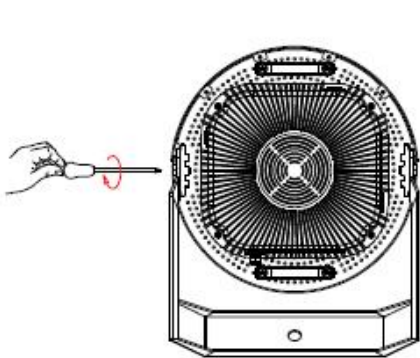
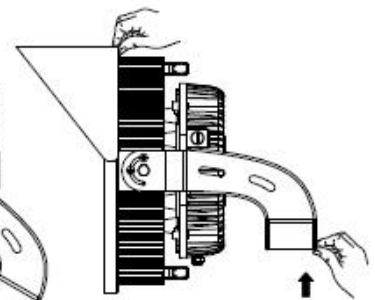

FIG.19
FIG.22
- 3) Adjust bracket angle, loosen the bracket screws with cross screwdriver and internal hexagonal wrench, adjust needed angle and re-tighten the screws. (See FIG.19 to FIG.22)